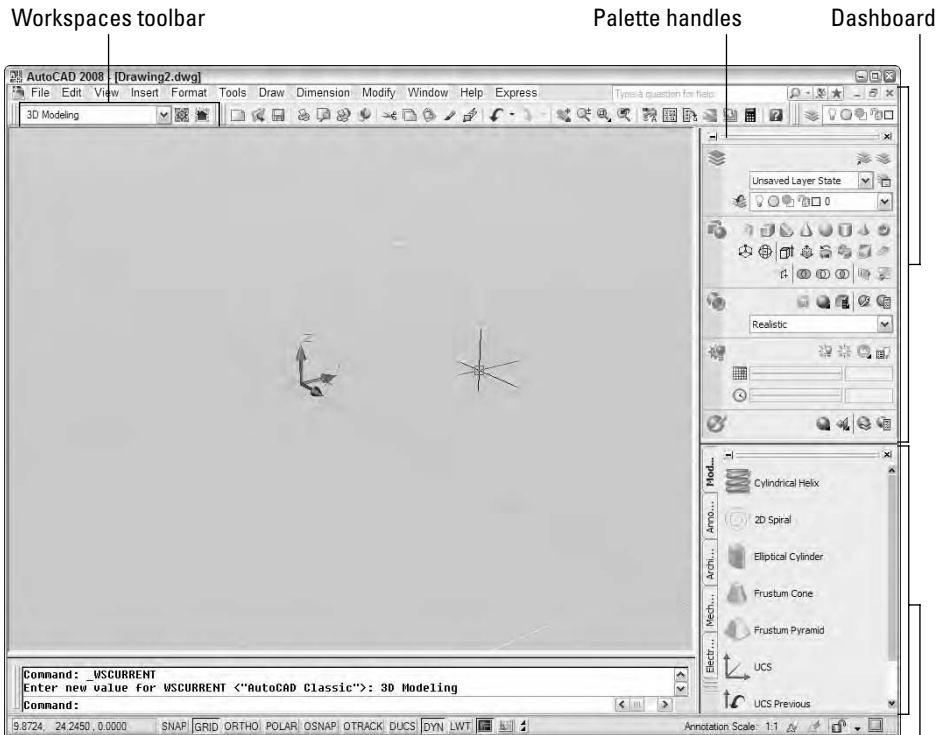

Figure 9-1:
- 1. Open the drop-down list in the Workspaces toolbar (see Figure 9-1) and choose 3D Modeling.**
AutoCAD may want to open the tool palettes and the Dashboard docked side by side, which really takes up a lot of drawing area. To stack them one above the other and regain a bit of room, double-click the grab handles at the top of the tool palettes or the Dashboard to float the palette in the drawing area; then double-click the now-floating palette's title bar — the panels should rearrange themselves as they appear in Figure 9-1.
A 3D modeling space appears (see Figure 9-1).